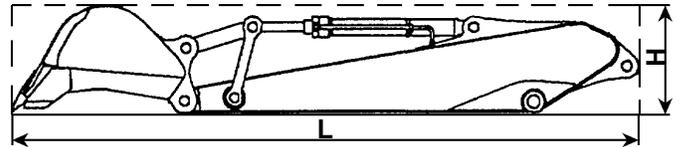

FIGURE 5.9C
3. Arm With Bucket Cylinder and Bucket - Figure 5.9C